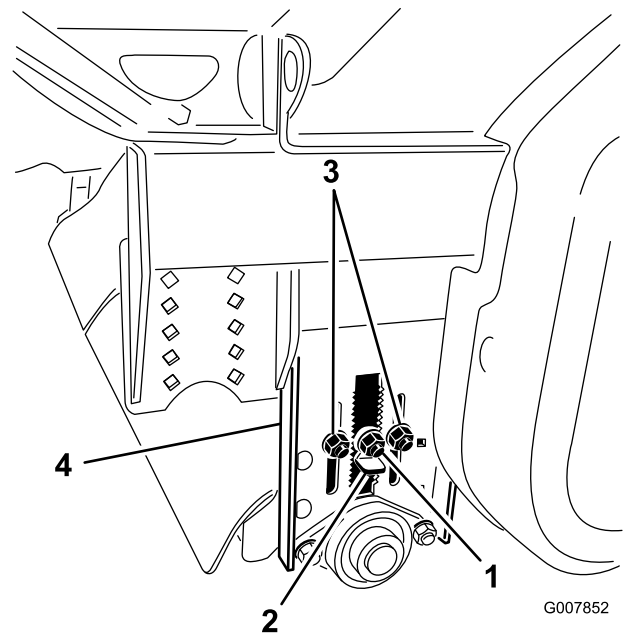

Figure 30
- Before leveling the core processor, make sure that the pickup brush and the rear roller height are adjusted to the correct height of cut (Figure 30). If the core processor is equipped with a new brush, reference the Rear Roller Adjustment Table to set the rear roller for proper grass height-of-cut.